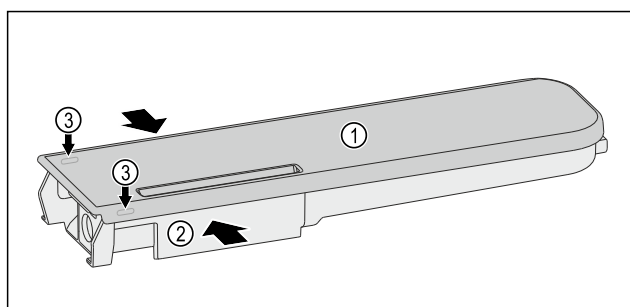

*Fig. 119*
- ▶ Push the water tanks *Fig. 119 (2)* together, leverage the cover *Fig. 119 (1)* carefully over the latching tabs *Fig. 119 (3)* and lift it up.
- ▶ Move the cover *Fig. 119 (1)* slightly forwards and back, and remove to the top.